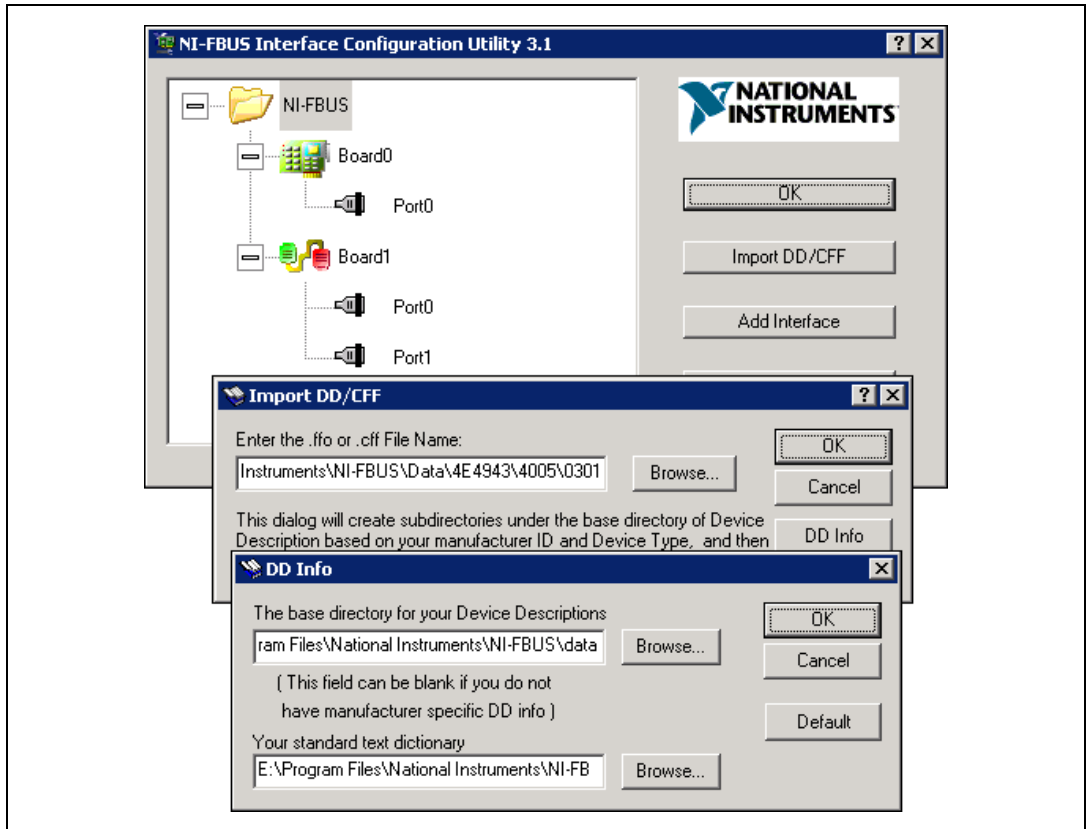

Figure 2-5. Import DD file
6. Click **DD Info**. The DD Info dialog box opens as shown in Figure 2-5.